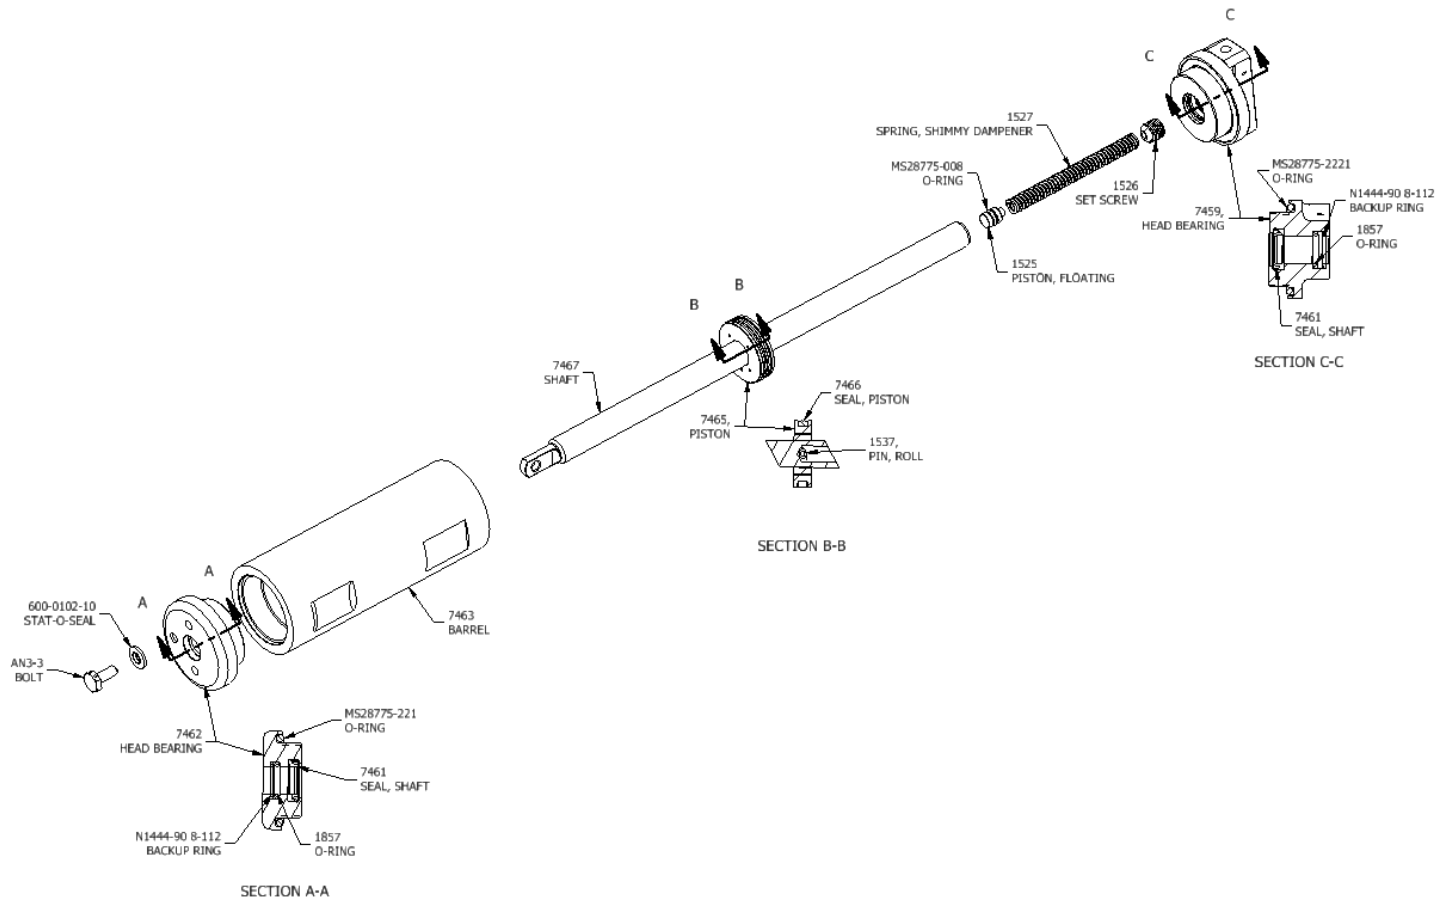

FIGURE 1 – Exploded View of McFarlane Aviation, Inc. P/N MC0743624-2 Shimmy Dampener Assembly
If an issue has been found while servicing the shimmy dampener assembly, do the disassembly as follows (See Figure 1 or Figure 3):
B. SHIMMY DAMPENER ASSEMBLY (Refer to Figure 1)
- 1) Do the servicing of the shimmy dampener as follows (Refer to Figure 1):